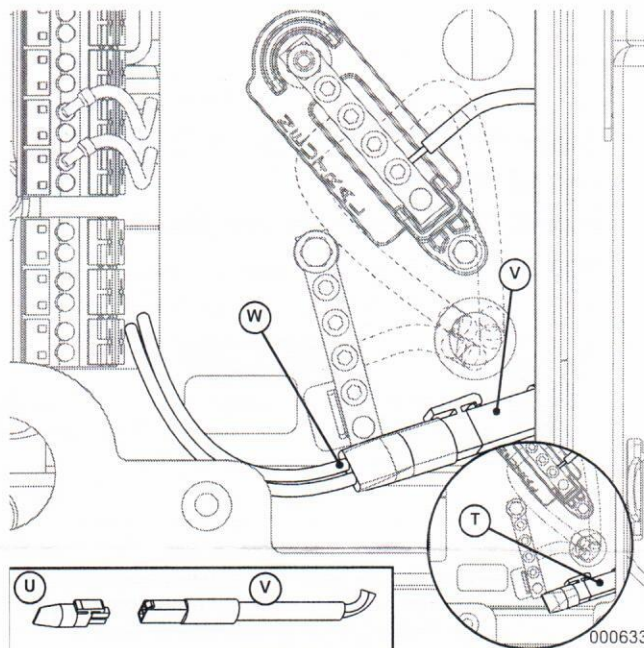

Figure 8.
15. Locate the auxiliary wire harness with cap (T) inside the electrical connections area. Disconnect the protective cap (U) from the auxiliary harness (V) and discard. (See Figure 8)
16. Run the wires (W) from the breather heater through the control box and connect to the auxiliary harness (V).